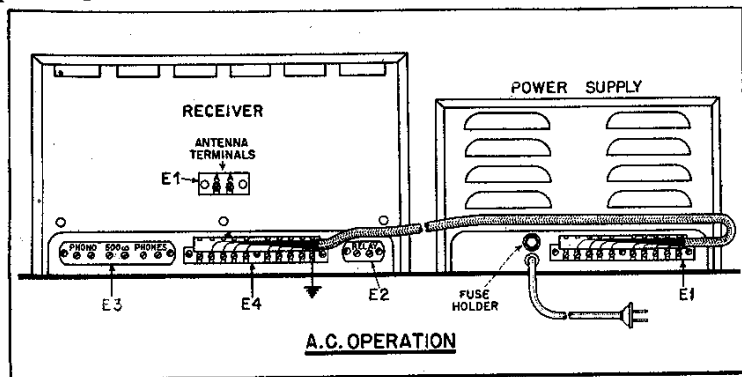

FIG. 3—Connections for power cable—A.C. operation.
(1) Remove the sheet-metal covers from terminal strip (E4, Fig. 3) on rear of Receiver and from terminal strip (E1, Fig. 3) on Power Supply. See that all ten screws on each strip are unscrewed at least three turns. Then attach one end of the connector cable to each terminal strip *exactly* as shown in Fig. 3 and tighten all screws securely. Make certain that each slotted spade lug on the cable strips makes contact with its respective screw terminal *only*, since a lug jammed between *two* screws could cause considerable trouble. Immediately replace both metal covers and do not remove them while the Power Supply is connected to the a-c power line.
(2) The spacing of spade lugs on cable terminal strips is exactly the same as the spacing of screws on Receiver and Power Supply. If the two fail to go together easily, **DON'T USE FORCE**. Be sure *all* screws are unscrewed far enough. If a spade lug has been bent or pushed out of place by rough handling, straighten it and try again. Spade lugs should slip under screws from the top.
**Chassis Ground:** It is not usually necessary to ground the Receiver chassis, but this can be done by connecting the ground lead to the left-hand PHONO or to the left-hand PHONES terminal (located on terminal strip E3, Fig. 3). These two terminals are grounded to the inside of the chassis.
**Loudspeaker:** The permanent magnet dynamic loudspeaker supplied with the Receiver has a transformer mounted on its housing. This transformer matches the voice coil of the loudspeaker to the 500-ohm output terminals (on terminal strip E3, Fig. 3) located at the rear of the chassis (marked 500 ohms). For loudspeaker operation, connect the two-wire lead attached to the terminals of the loudspeaker transformer to the 500-ohm terminals on the Receiver. Disconnecting the loudspeaker will not impair the operation of the Receiver.
(3) Fading signals can be improved by returning AVC-MANUAL switch to AVC.
d. *Receiver Silencing:* Receiver can be silenced by flipping the SEND-REC switch (S6, FIG. 2) to SEND. This operation opens the "B" supply to the R-F and 1st detector tubes (V1, V2 and V3). The Receiver then remains ready for instant service during transmission periods. Note also that instead of using the SEND-REC switch, a relay may be connected to the RELAY terminals (E2, FIG. 3) at rear of Receiver and silencing controlled by relay action, actuated, for example, by the associated transmitter. When using a relay for silencing, flip SEND-REC switch to SEND (open) and *leave* it there. While the transmitter is operating, the relay should remain *open*; when the transmitter is "off the air," the relay contacts should *close* to restore Receiver operation.
e. *Phono Operation:* Leads from a phonograph pickup may be connected to the PHONO terminals (on terminal strip E3, FIG. 3) at the rear of the Receiver. (Note that the left-hand terminal of this pair is grounded to chassis.) Use the SEND-REC switch (S6) as a "phono-radio" switch by flipping it to the SEND position, thus eliminating radio interference and making it unnecessary to hunt for a "dead spot" on the tuning dial.